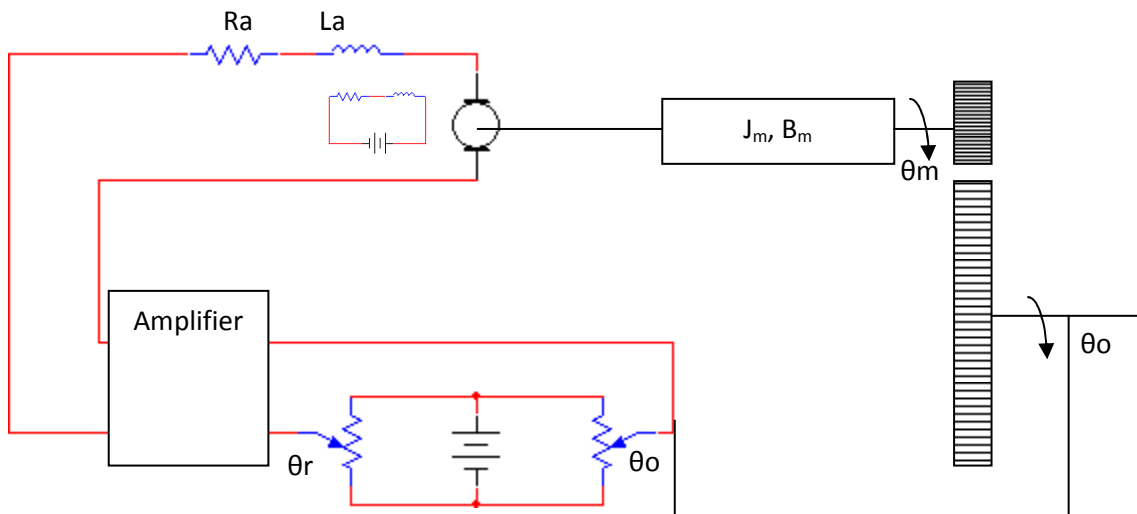

Figure 10
17) Figure 10 represents a simple position control system. It has the following parameters: